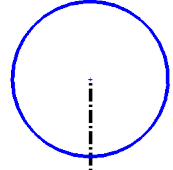

Fig. 3
Step 5. Click **Circle**  (S) on the Sketch toolbar.
Step 6. Draw a **circle at top endpoint of vertical centerline**, **Fig. 3**.